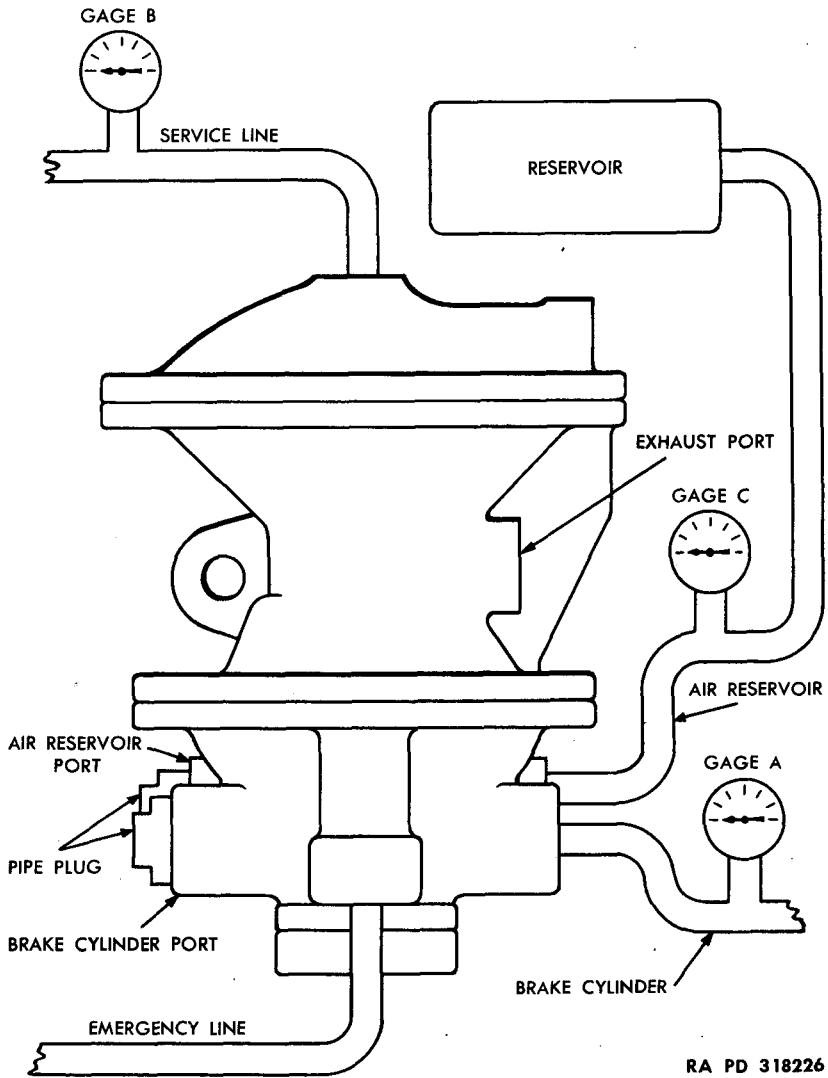

Figure 6 — Piping Diagram for Testing Relay-emergency Valve
14. TEST (figs. 6 and 11).
a. **Couple Relay-emergency Valve to Test Stand.** Using Westinghouse portable test stand, connect the relay-emergency valve to test stand in the same relative position as shown in piping diagram (fig. 6). Install one pipe plug in port marked "CYL" (cylinder); install one pipe plug in port marked "RES" (reservoir). Remove exhaust valve.
- (1) **WORN OR DIRTY DISCHARGE VALVE.** Clean or replace.
- (2) **WORN DISCHARGE VALVE PLUNGER.** Replace plunger.
- (3) **WORN LOWER SEAL.** Replace lower seal.
- (4) **WORN CHECK VALVE PLUNGER.** Replace check valve plunger.
- (5) **WORN UPPER SEAL.** Replace upper seal.